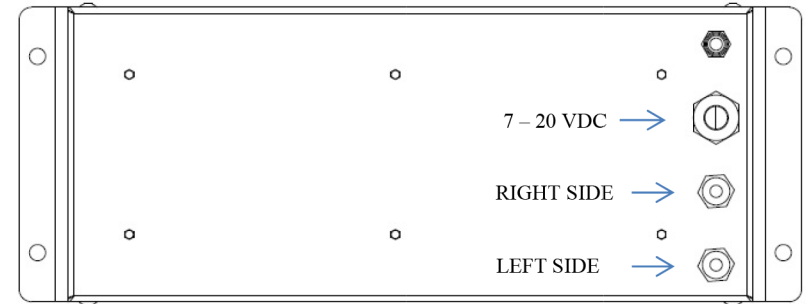

Figure 2 Back Side of Display Unit
2. Insert tank/line airlines into inlet ports as marked in Figure 2